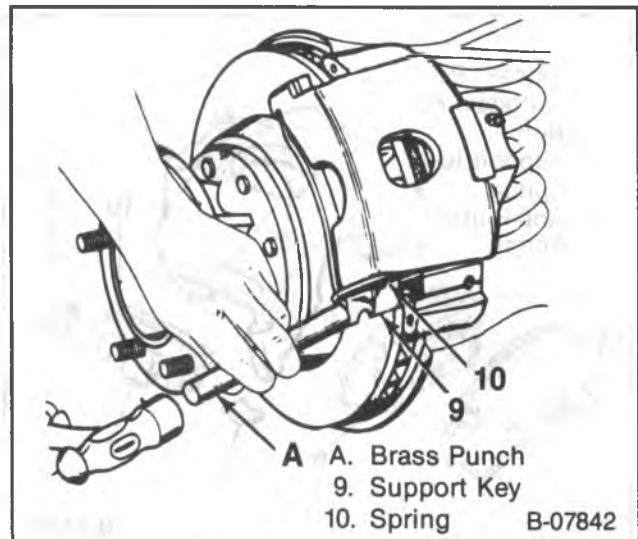

Figure 14 — Installing the Caliper Support Key
4. Spring (10) and support key (9).
- Use a brass punch and a hammer to drive the support key in place (figure 14).